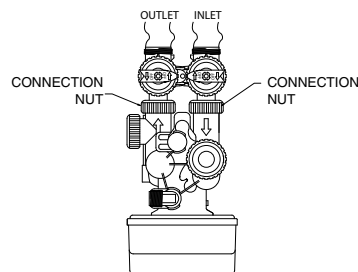

Figure 11
**Air Release Valve (AR1).** This is the air release device that controls the amount of air that is retained in the aeration tank. We recommend cleaning this air release valve at least once every six (6) months to help prevent plugging of the dip tube. To perform this task:
5. Then open the upper body again to allow air to be release externally as needed by turning the upper body so the circle lines up with the line on the brass base of the AR1 (Figure 11).